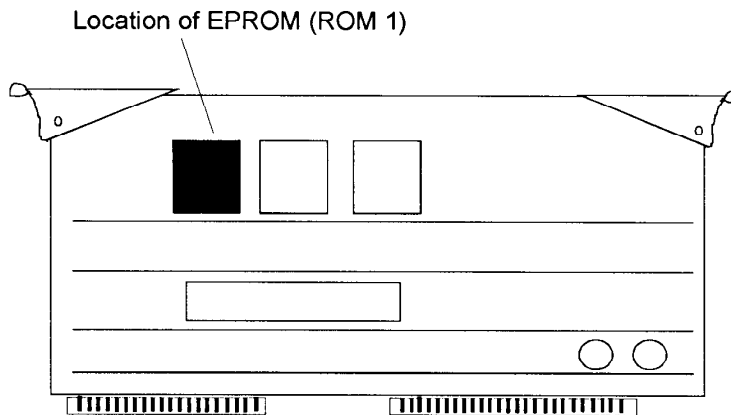

Figure 2
7. Remove the EPROM in position ROM 1 and insert updated EPROM version 24.0 (refer to **Figure 2**).
11. Remove the EPROM from position ROM 1 and insert updated EPROM version 24.0 (refer to Figure 2).